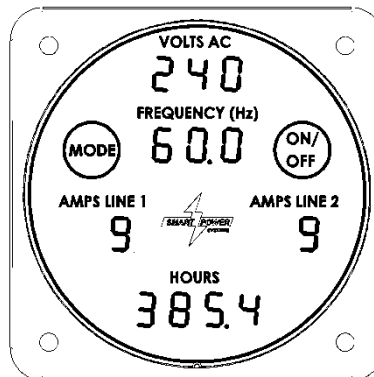

Figure 13 – Normal Operating Mode
1. The Command & Control Center will show the generator's output voltage, frequency, current, and system run time whenever the Command & Control Center is in the Normal mode. To access Normal mode, press the Mode switch repeatedly until the correct information is displayed (reference Figure 13).